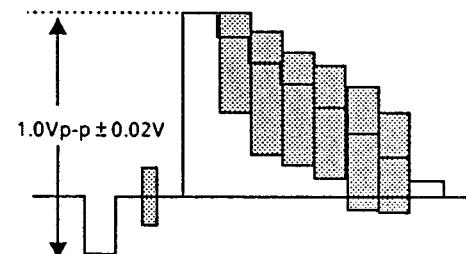

Fig. 4-3
- Adjust VR12 so that the level of Y signal becomes $1.0V \pm 20mV$. (Fig. 4-3)